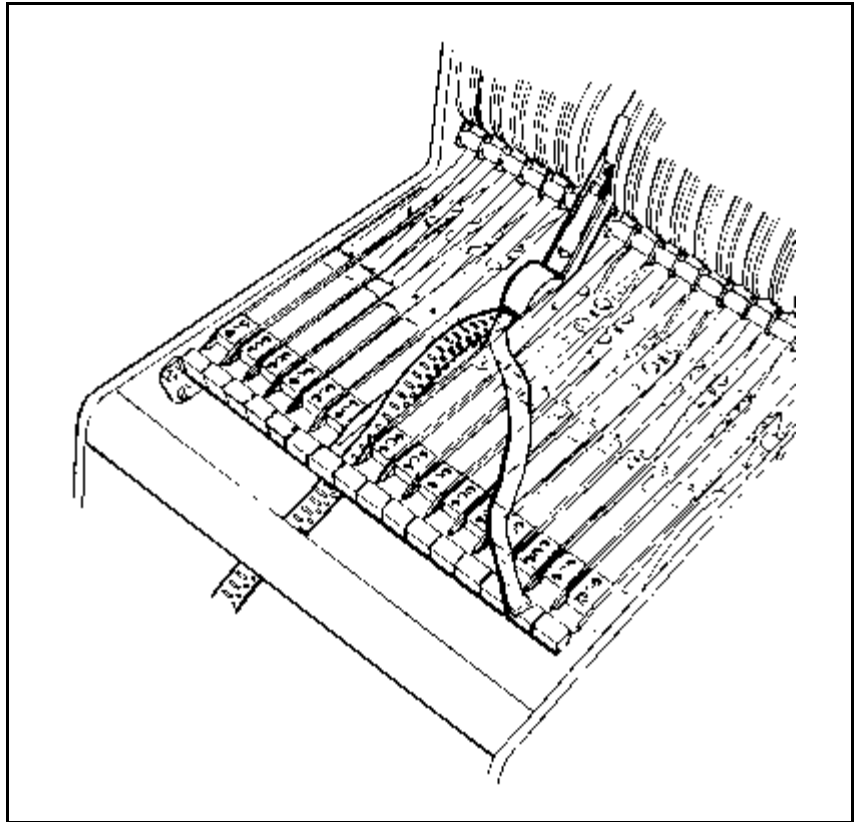

Figure 4-31. Positioning the tape in the feeder
- 7.** Load the component reel into the magazine and pull the tape (together with the cover tape) to the feeder rail (Figure 4-31).